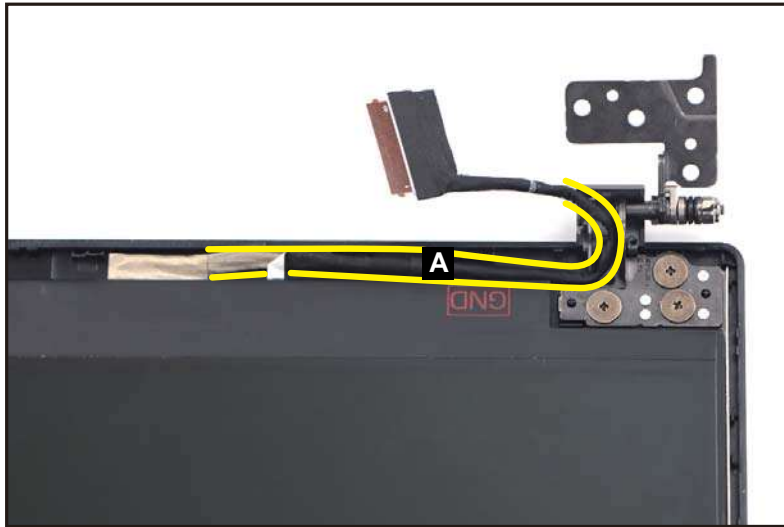

Figure 3-57. LCD Panel Removal
1. Unroute the LCD cable (A) from the bottom side of the cable guides on the LCD cover as shown in Figure 3-57.